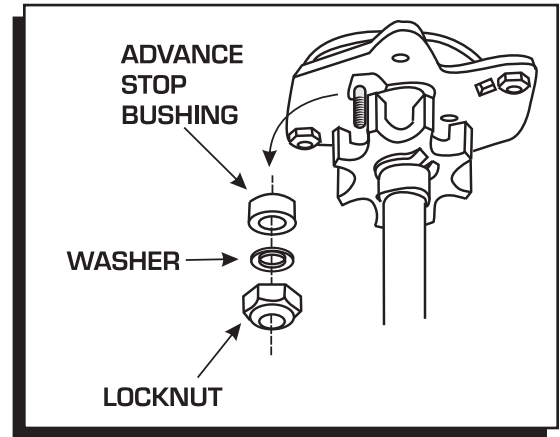

Figure 5 Changing the Advance Stop Bushing.
- 2 Remove the locknut and washer on the bottom of the advance assembly (Figure 5).